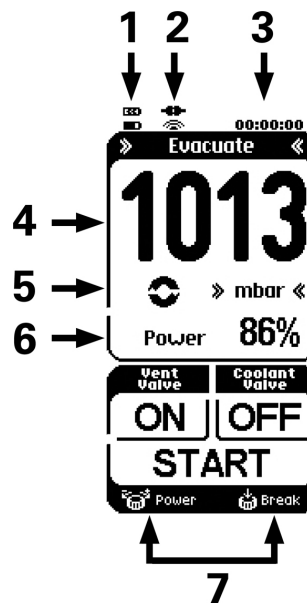
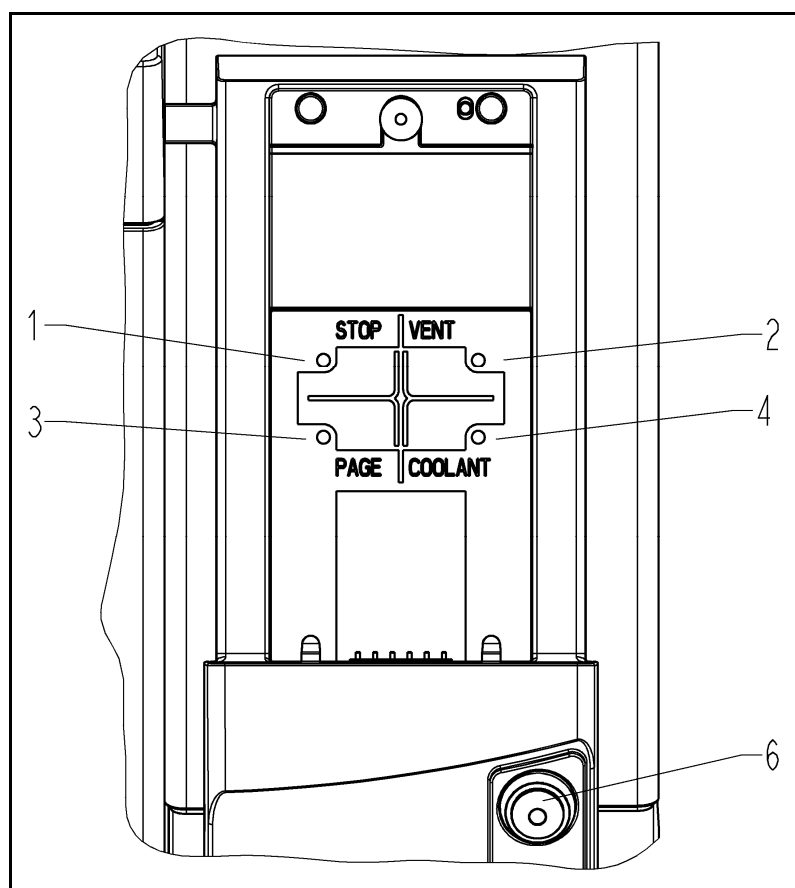

Fig. 10: Display on the touchscreen
Fig. 16: Buttons on vacuum pump system SC950
- Display of the most important process variables (Fig. 10, page 32).
When you press the circle symbol for the active process (Fig. 10/5, page 32) in the hand terminal display, the LED next to the page button (Fig. 16, page 38) on the vacuum pump system will blink.
The following actions can be taken directly on the vacuum pump system when the hand terminal is removed (Fig. 16):